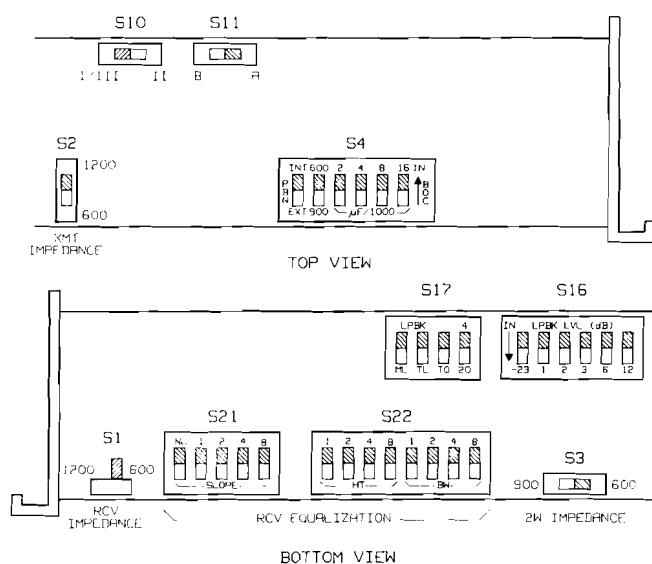

figure 10. 6162X option switch locations
3.06 A number of option switches must be set before the 6162X can be placed into service. These switches and their functions are described in paragraphs 3.07 through 3.12. The locations of the switches on the module's printed circuit board are shown in figure 10. Table 6 summarizes all switch options and provides a convenient checklist for optioning the module.